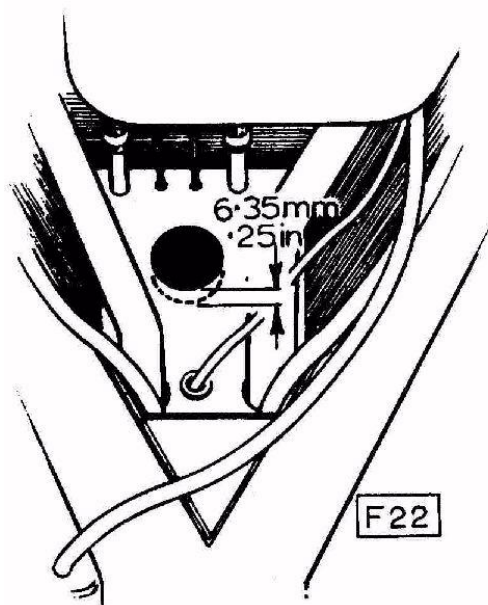
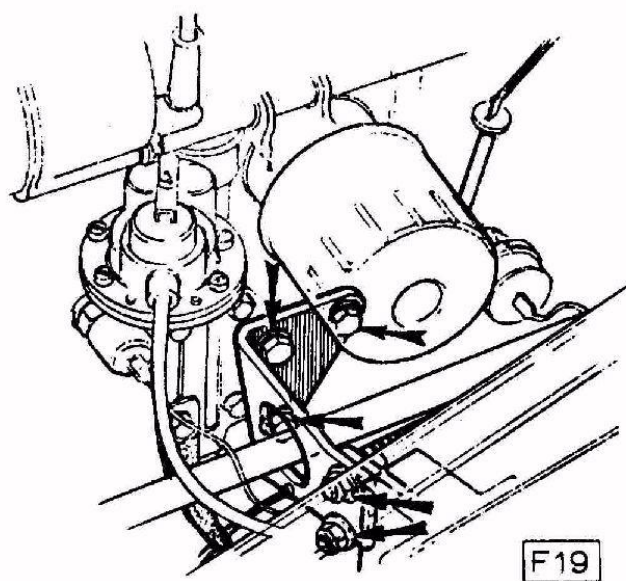

Fig. 108 Hole in Chassis Diaphragm
Fig. 109 Engine Mounting Bracket
7. Enlarge the lower half of the hole in the chassis diaphragm by .25 in. (6.35 mm.) (Fig. 108). Fit new engine mounting bracket (Part No. B046 E 0378) and insert new rear longitudinal link (Part No. A065 F 0725) (Fig. 109).